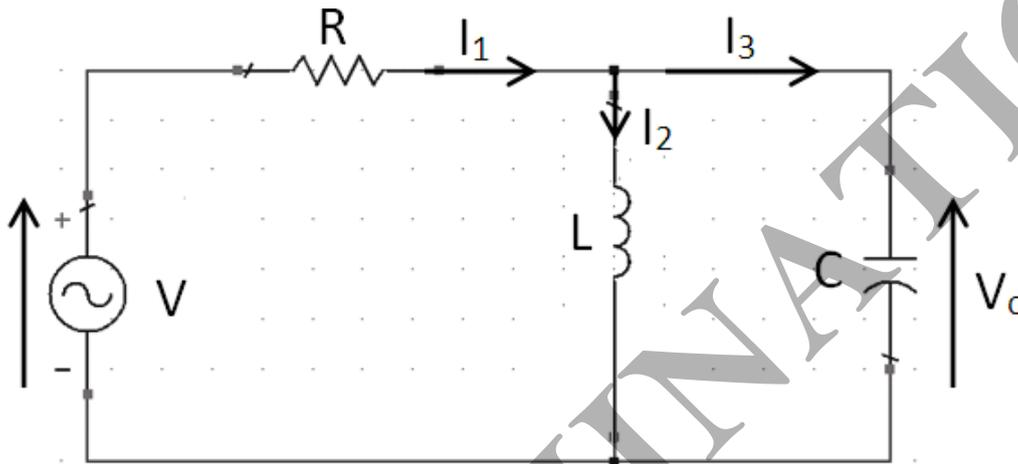

Figure Q6(a): RLC electrical circuit
- (a) A RLC circuit is shown in Figure Q6(a), where C is the Capacitance, L is the Inductance, R is Resistance, $I_1(t)$ is the total current and $V(t)$ is the source voltage.
- (i) Develop a differential equation for the RLC electrical circuit shown in Figure Q6(a). **[8 marks]**